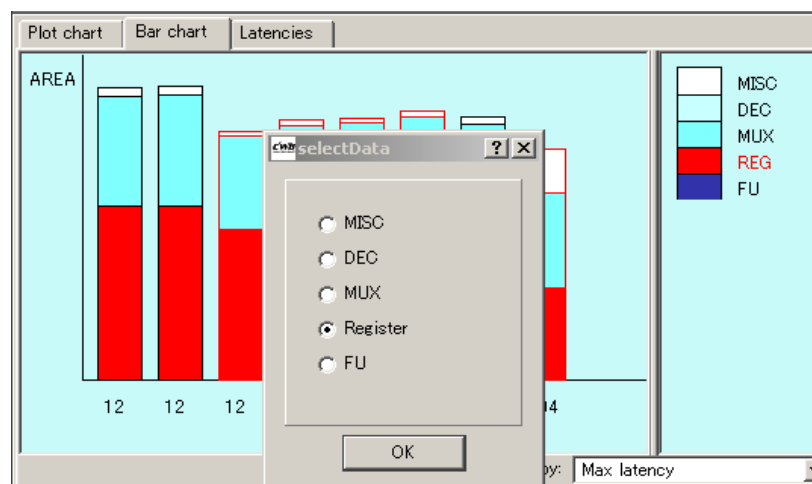

Figure 11-8 Display data select screen (right click background)
- Screen to select display data will appear by right clicking the background other than plotted bars in graph (Figure 11-8). The index selected in this screen, will be displayed as the lowest area of bar graph. Same effect is achieved by clicking explanatory notes also.